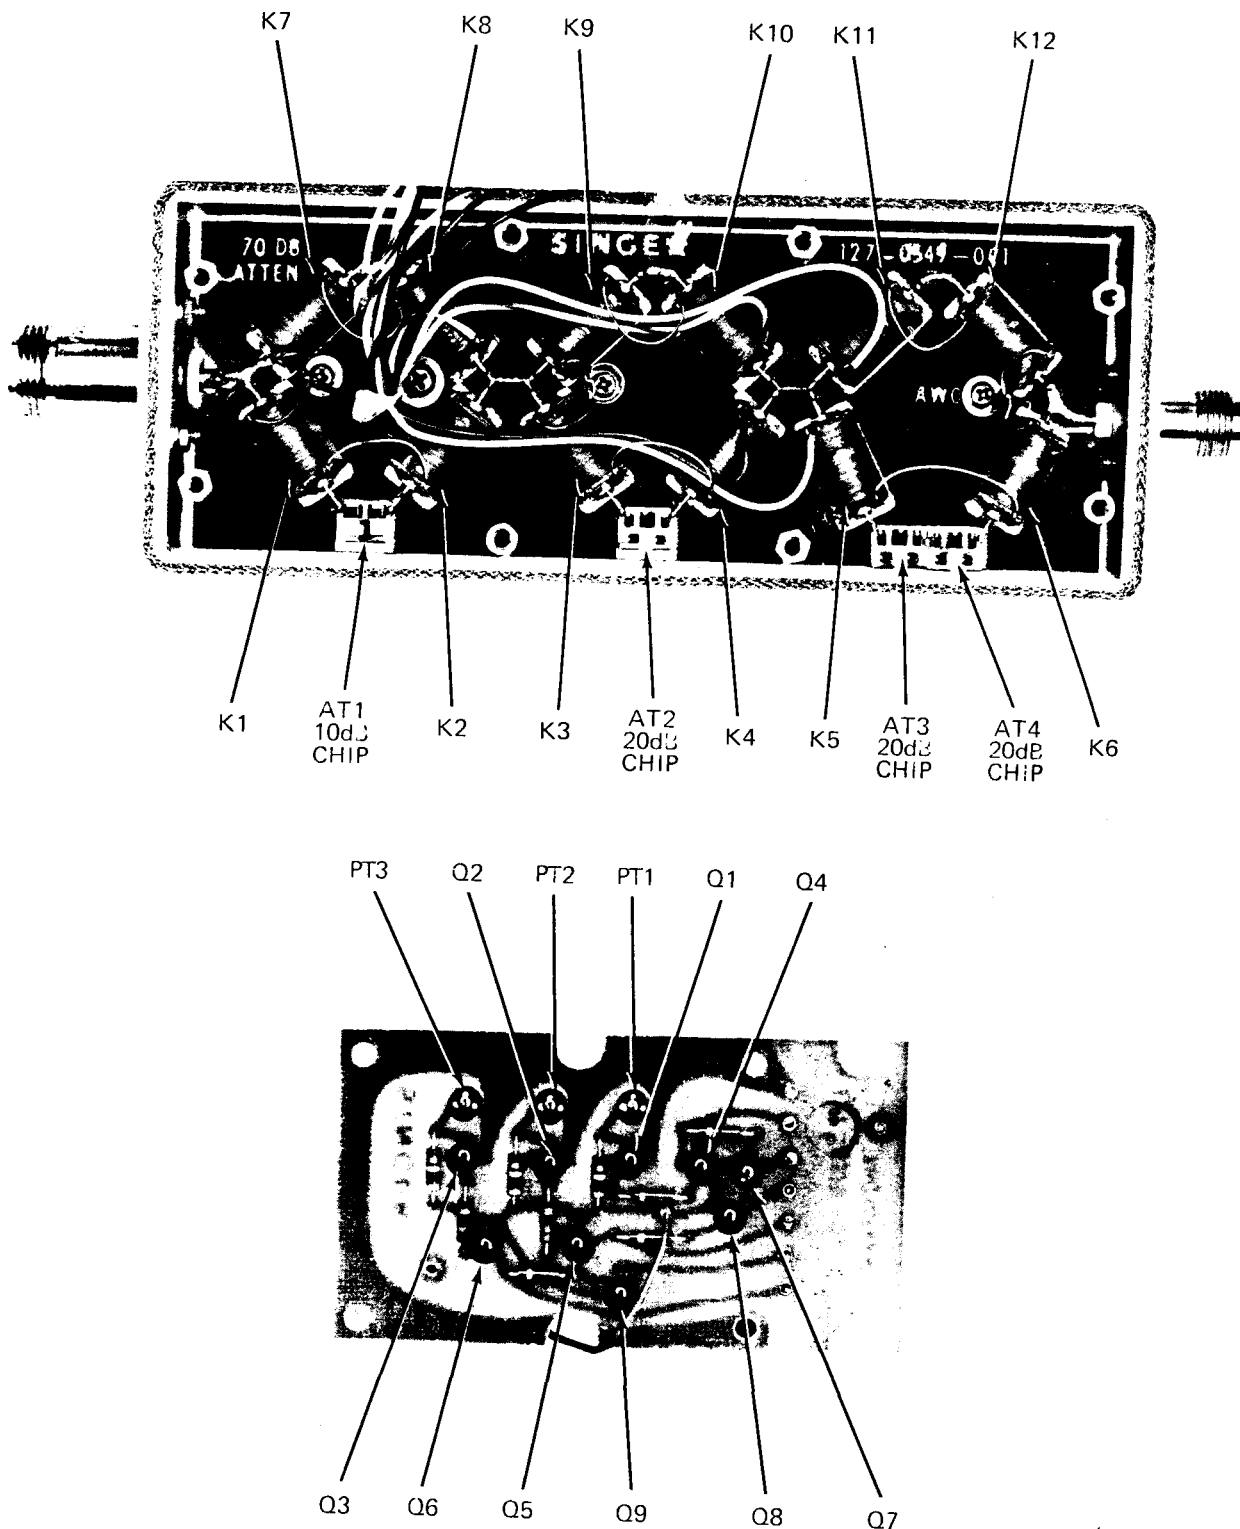

Figure 4-12. 0-70 dB Step Attenuator A6A2
m. Malfunctions of this assembly can be located by reference to the assembly schematic diagram in conjunction with the voltage data furnished in Table 4-16. Component locations are shown in Figure 4-12.